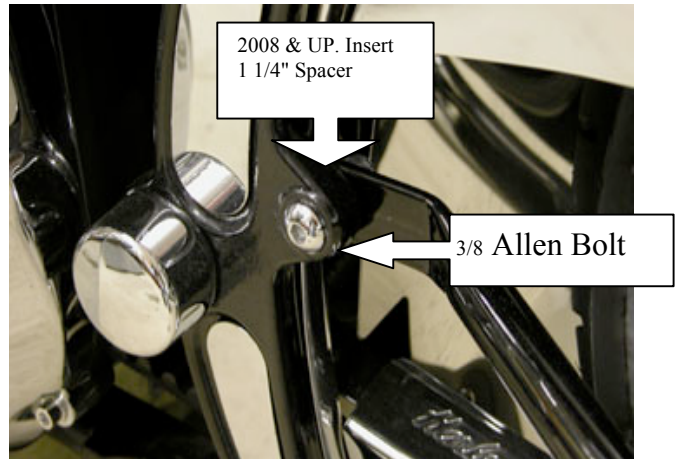

Figure 2
3. Install lower support brackets to the inside of the frame at the rear peg. **Note:** On some models with wider seats, you may need to install a lower support bracket on the outside of frame. See Figure 2. **Note:** There is a right and left side. On '86 to '99 reuse the ½ bolt through the support bracket and reinstall rear foot peg. On 2000 & Up models use the new longer 3/8 Allen bolt through foot peg clevis and install nut and washer on the back side of support bracket.